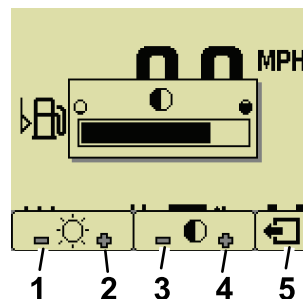

Figure 20
2. Use the plus and minus icons to change the brightness/contrast pop-up-menu bar (Figure 20).